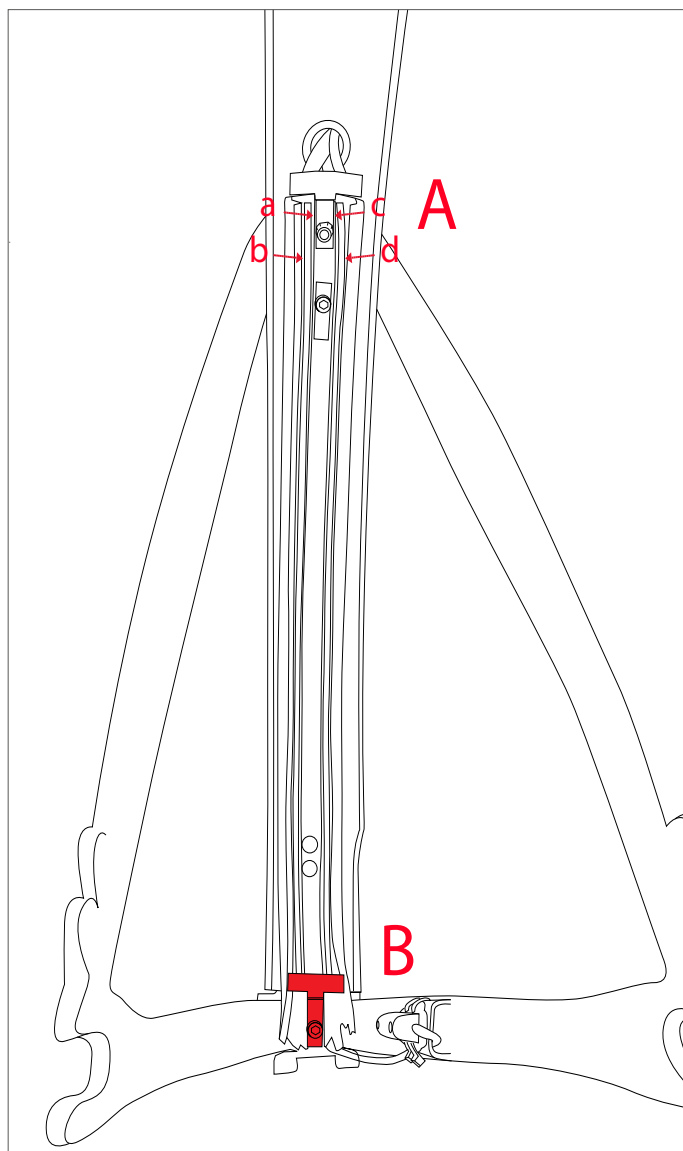

Figure 4.52 Location of "T" brackets
3. Mount the T-shaped bracket [B] at the end of the tunnel (Fig. 4.52).